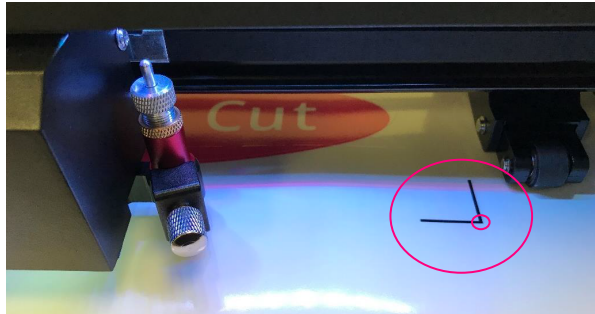

Fig. 3.4.6 Position the blade over the lower right corner of the lower right registration mark.
2. Try to load the material straight so that the front registration marks are parallel to each other on your Muse's platen. Move the tool carriage so that the blade is over the lower right registration mark. The blade needs to be close to the bottom corner as shown in FIG. 3.4.6.